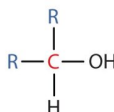

Figure 23.1f. Structure of secondary (2°) alcohol (credit: Intro Chem: GOB \(V.1.0\), CC BY-NC-SA 3.0).
- A **secondary (2°) alcohol** is one in which the carbon atom (in red) with the OH group is attached to *two* other carbon atoms (in blue) (Figure 23.1f.). Its general formula is R_2CHOH .